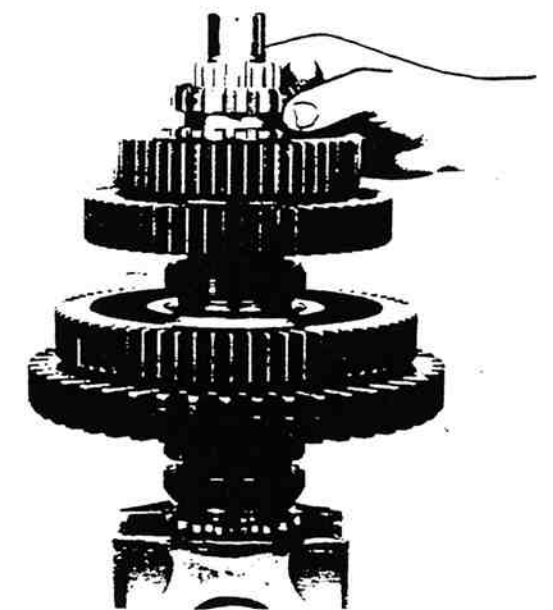

Figure 13-137. Installing 4/5th Speed Sliding Clutch.
23. Install 4th-5th speed sliding clutch, aligning missing internal spline of sliding clutch with key in mainshaft (figure 13-137).